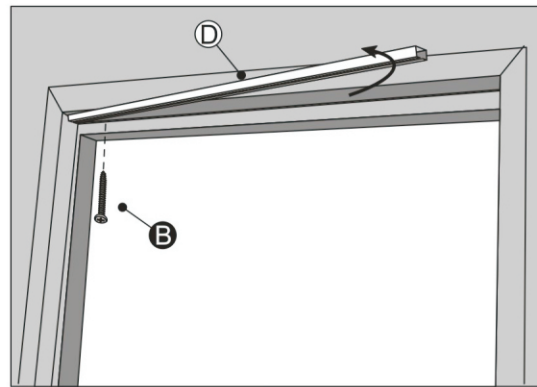

fig. 9
2. Use Screw **B** to fix one end of the Top Track **D**. Then pivot the Top Track outward. See fig. 9.